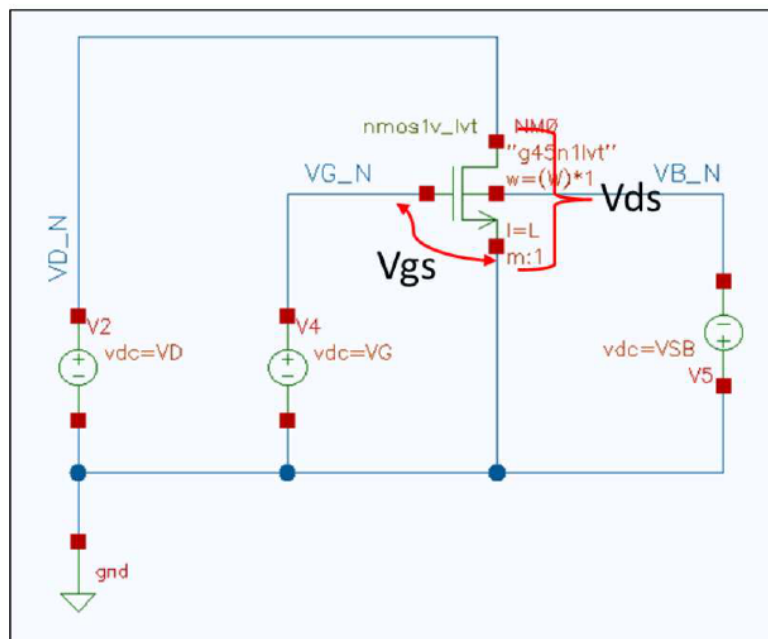

Figure 1. Circuit diagram for characterizing NMOS characteristics
1.3. Instruction: Assemble the circuit as shown in **Figure 1 and Figure 2**, setting parameters for power supplies (using **vdc** source), with $L = 45nm$, $W = 120nm$, $V_{SB} = V_{BS} = 0V$.
- Use the testbench as **Figure 1** and **Figure 2** to measure the V_{TH} while varying the W, L, and PVT (Process, Voltage, Temperature) conditions.